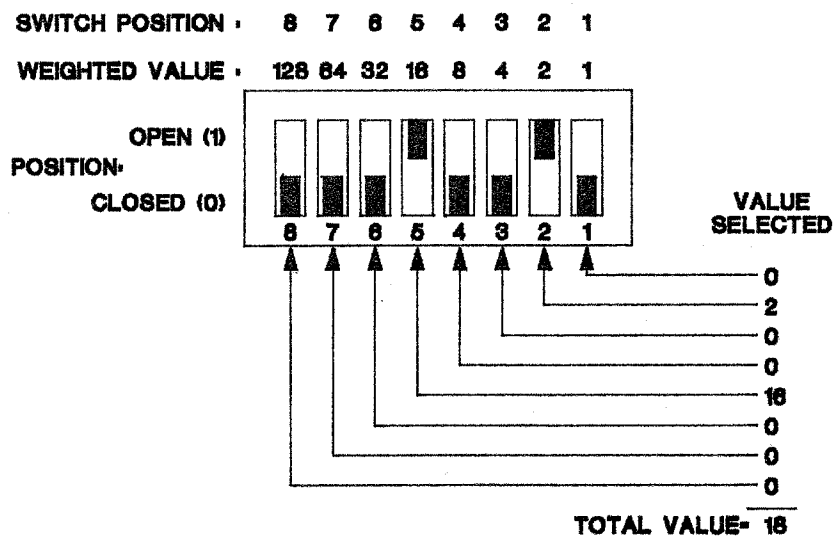

Figure A-12: Setting a Typical Dip Switch
3. Monitor the diagnostics display as you reset the switch. Each DIP switch has eight slide elements (bits). Slide up towards the top (OPEN) to select a bit, or slide down towards the bottom (CLOSED) to zero it. Figure A-12 shows bit positions for a typical DIP switch set to a value of 18.
If the process value (temperature or relative humidity) exceeds the setpoint by the selected factor, the integral action (reset) overshoot is clipped so that the system can rapidly settle to the final setpoint value. This does not directly affect PID parameters. When using Figure A-12 as a guide to reset S2, substitute the values below for the bit positions. (Values for this switch are multiplied by  $10^{-2}$ . The standard S2 factory setting is .32 resets per minute — position 6 is up.)
When using Figure A-12 as a guide to reset S5, substitute the values below for the bit positions. The standard S5 factory setting is 0 — all positions are down.